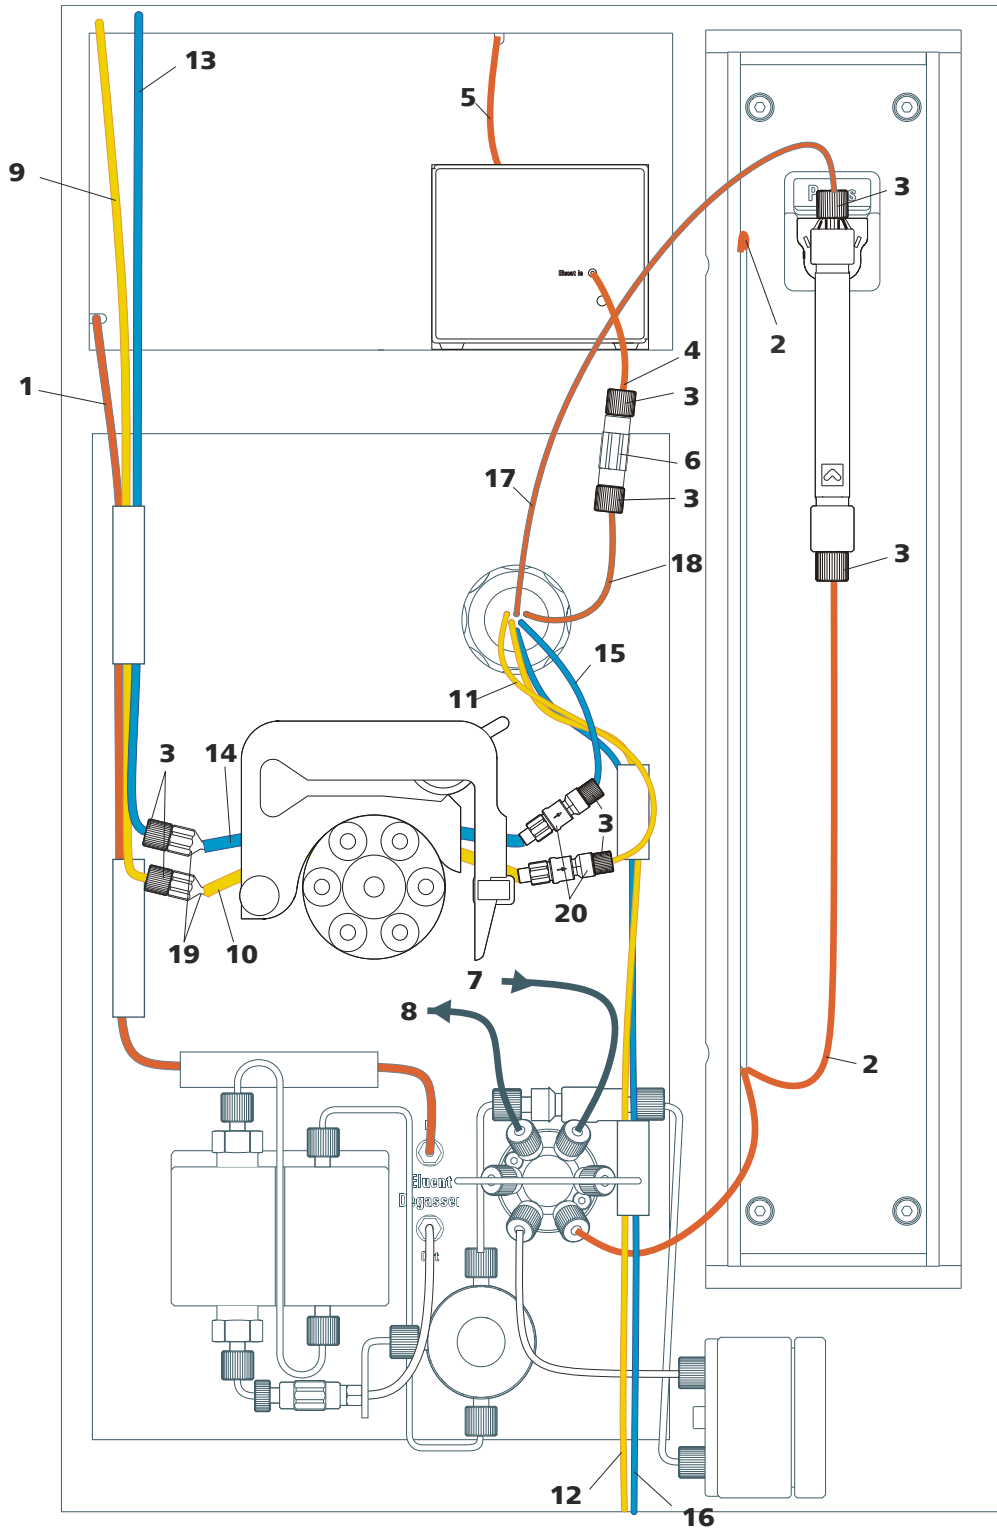

Figure 3 Installation diagram 881 Compact IC pro – Anion
- an installation diagram (*see Figure 3, page 15*), showing a completely installed 881 Compact IC pro – Anion.